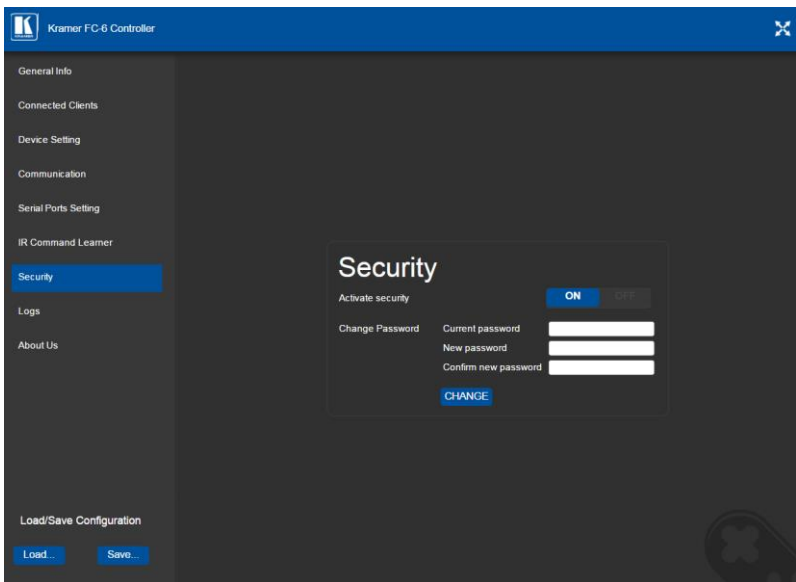

Figure 19: Security Activated Page
5. Wait until the Web pages have reloaded. Click the Security page button. The page show in Figure 19 is displayed.